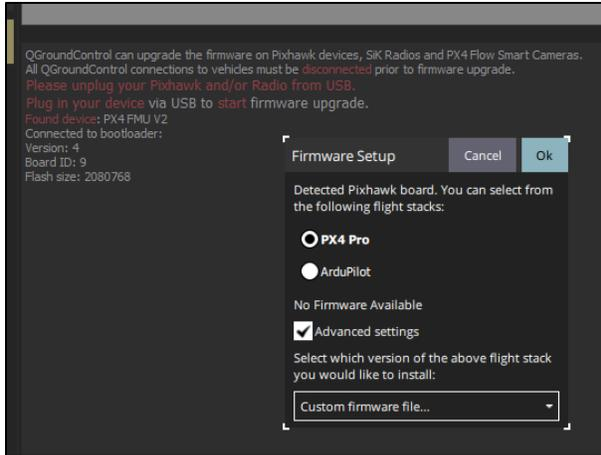

Figure 158 Verifying that the *tfmini* driver is enabled
3. Click on the **Firmware** tab, then follow the instructions until you reach the firmware selection dialog box shown in **Figure 158**. Check the **Advanced settings** box, then in the dropdown that appears, select **Custom firmware file...**